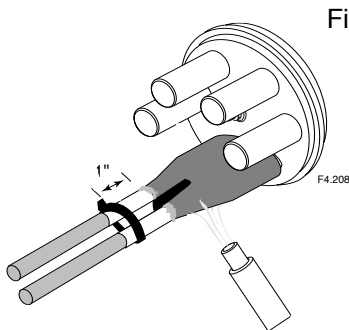

Fig. 17
10. Continue heating the remainder of the tube as evenly as possible until it has completely conformed to the cable(s). (Figure 17)